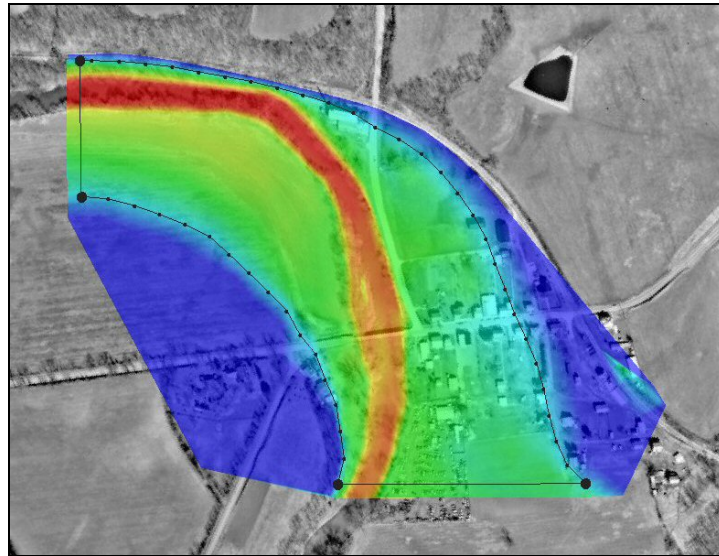

Figure 3 *Model domain of Double Pipe Creek*
6. With the *Create Feature Arc*  tool create the upstream and downstream boundaries of the model domain as shown in **Figure 3**. You may want to zoom in and turn off the scatter set. Delete any dangling arcs that result when creating these two boundaries. Note the arcs are not to be placed on the ends of the existing arcs.